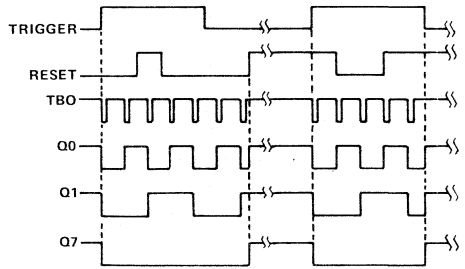

FIGURE 5—TIMING DIAGRAM OF OUTPUT WAVEFORMS
Figure 5 shows voltage waveforms for typical operation of the  $\mu$ A2240C. If both reset and trigger inputs are low during power-up, the timer/counter will be in a reset state with all binary (Q) outputs high and the oscillator stopped. In this state, a high level on the trigger input starts the time-base oscillator. The initial negative-going pulse from the oscillator sets the Q outputs to low logic levels at the beginning of the first time-base period. The  $\mu$ A2240C will ignore any further signals at the trigger input until after a reset signal is applied to the reset input. With the trigger input low, a high level at the reset input will set Q outputs high and stop the time-base oscillator. If the reset signal occurs while the trigger input is high, the reset is ignored. If the reset input remains high when the trigger input goes low, the  $\mu$ A2240C will reset.